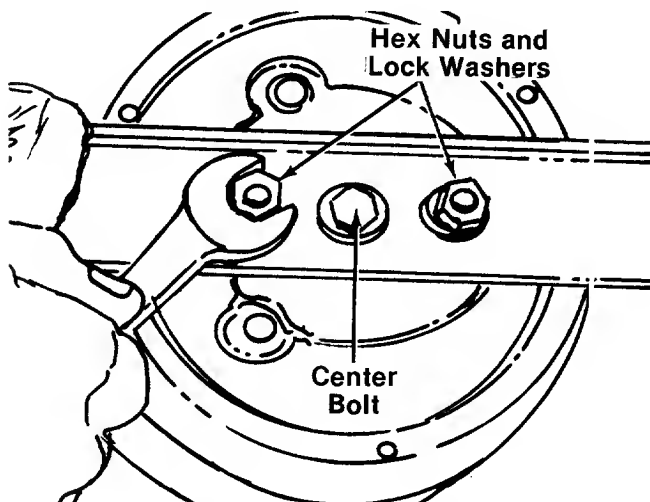

FIGURE 24.
To remove the cutting blade for sharpening or replacement, remove the two hex nuts and lock washers which hold the blade to the blade brake/clutch. See figure 24.
9. Tip the mower on its side. Remove the blade by removing two hex nuts and lock washers. Refer to figure 24.